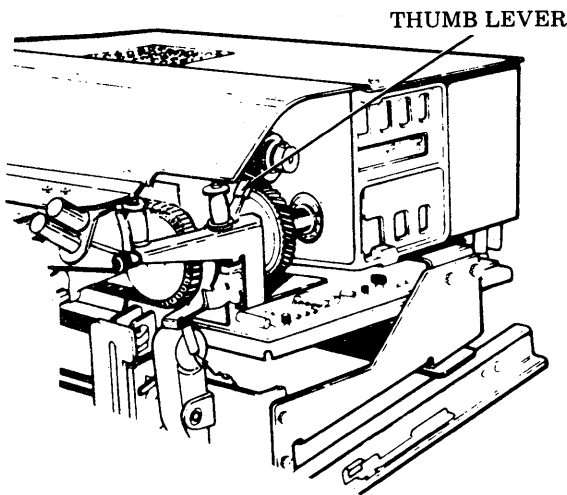

Fig. 38—Thumb Lever
- (a) Depress thumb lever on right ribbon guide bracket allowing the guide to spring open (Fig. 38).